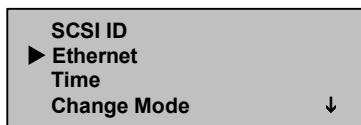

Figure 26: Select Ethernet
3. On the Configuration submenu, scroll to Ethernet. (See Figure 26.)